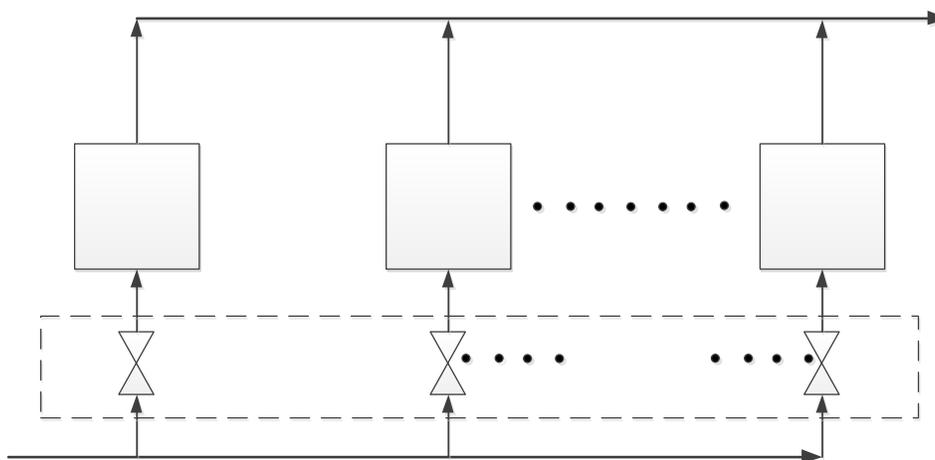

Figure 8-1. Simplified Block Diagram - Water Heater Management (WHM)
The C-More Water Heater Management System (WHM) is designed to ensure that all water heaters in the system operate at maximum efficiency. This is accomplished by monitoring the Air/Fuel Valve position (VP) of all water heaters that have their sequencing valves open. Units with open sequencing valves are called enabled units. Units with closed sequencing valves are called disabled units. Units which are unable to function, due to a fault or user intervention, are called off-line units. When there is minimal, or no demand for hot water, the sequencing valve for one unit will be open. As system load increases, the WHM will open the sequencing valves on additional heaters. A simplified block diagram of multiple water heaters connected to a WHM is shown in Figure 8-1.